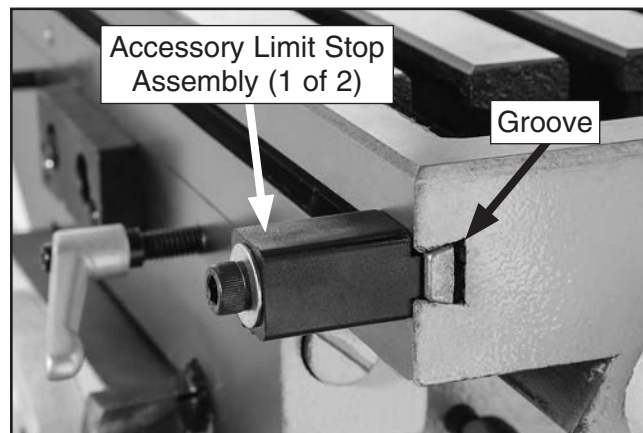

Figure 26. Accessory limit stop assembly mounted in table groove (1 of 2 shown).
15. Loosen and remove factory-installed limit stops, then insert both accessory limit stop assemblies into groove in table, as shown in **Figure 26**.